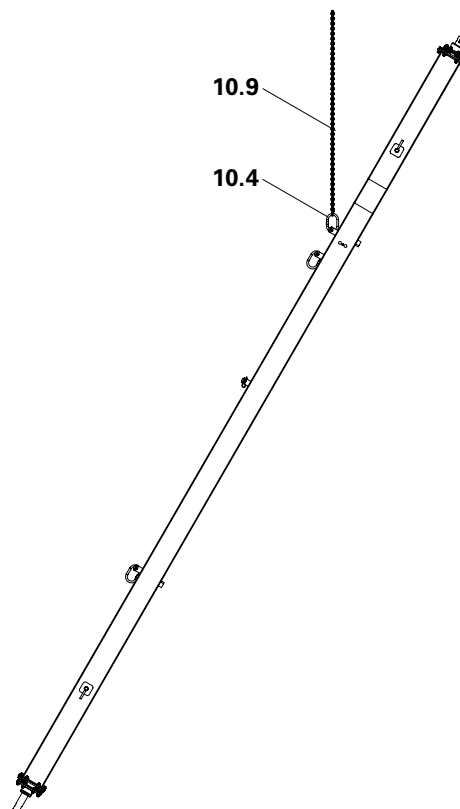

Fig. A3.12
4. Attach push-pull prop to crane lifting gear and transport to the formwork element. (Fig. A3.12) One person must hold the push-pull prop from below so that the prop does not slide away.